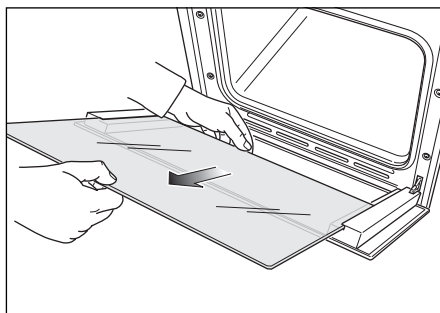

Fig.51d
- Gently pull out the inner pane of glass (Fig. 51d).